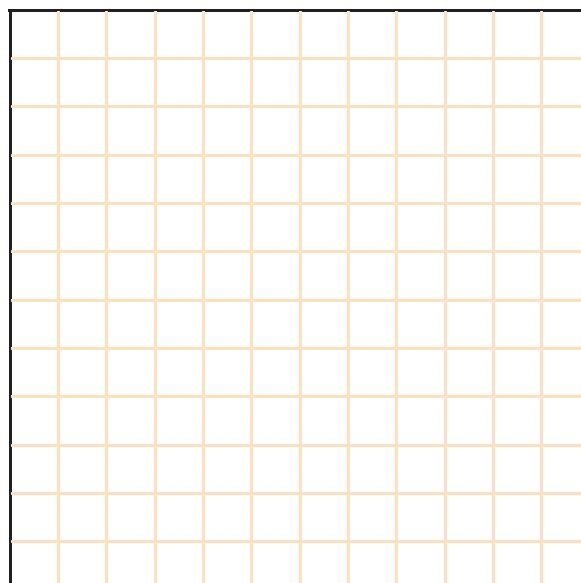

Figure 1-15. With and without voltage boost characteristics.
27. For all voltage setpoint values shown in Table 1-11, determine the corresponding voltage output (U) displayed by the AC Drive. Enter your results in the With voltage boost column in Table 1-11.
29. Plot the curves With and Without voltage boost characteristics in Figure 1-15. Place the Frequency in the X-axis, and the Output voltage (U) in the Y-axis.